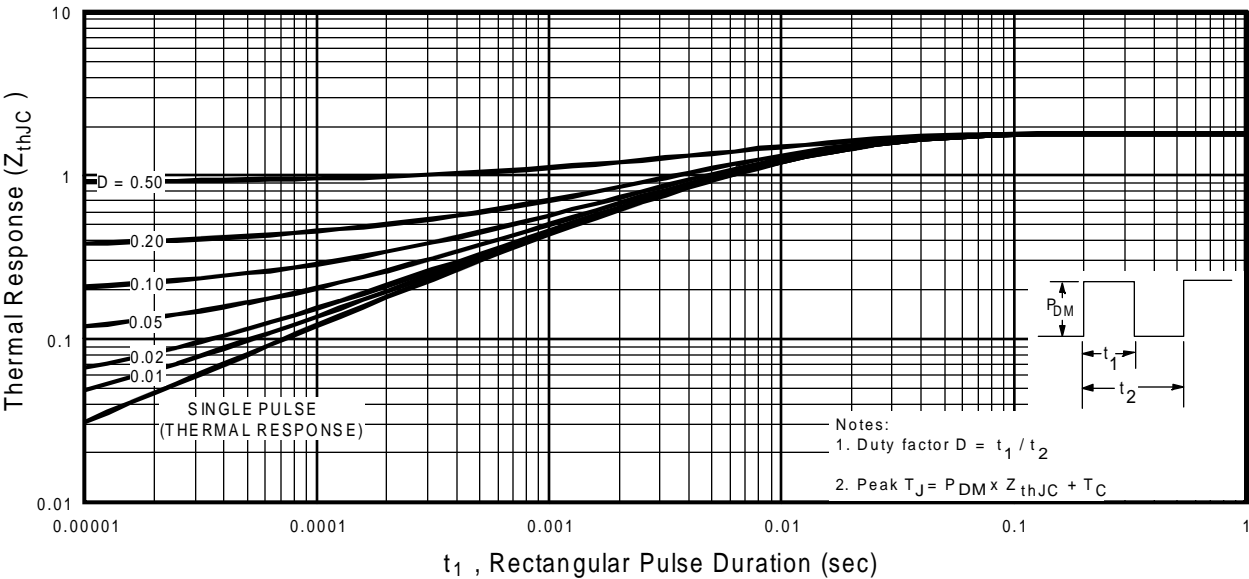

Fig 11. Maximum Effective Transient Thermal Impedance, Junction-to-Case
- ① Repetitive rating; pulse width limited by max. junction temperature. (See fig. 11)
② $V_{DD} = 15V$, starting $T_J = 25^\circ\text{C}$, $L = 300\mu H$